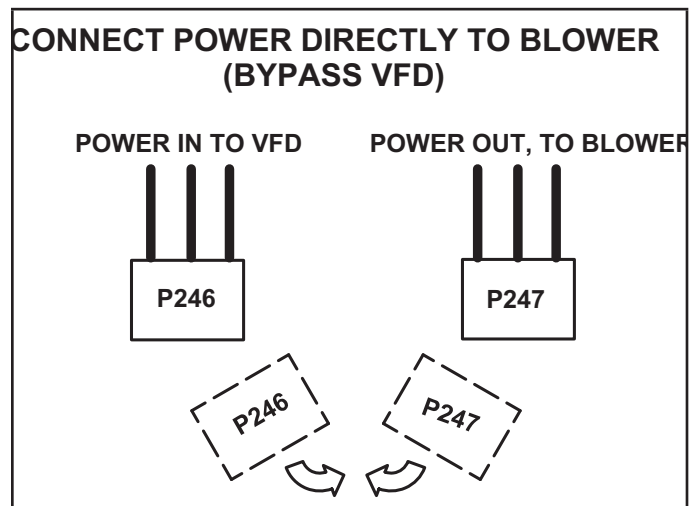

FIGURE 40
4. Connect P246 to P247. See FIGURE 40.